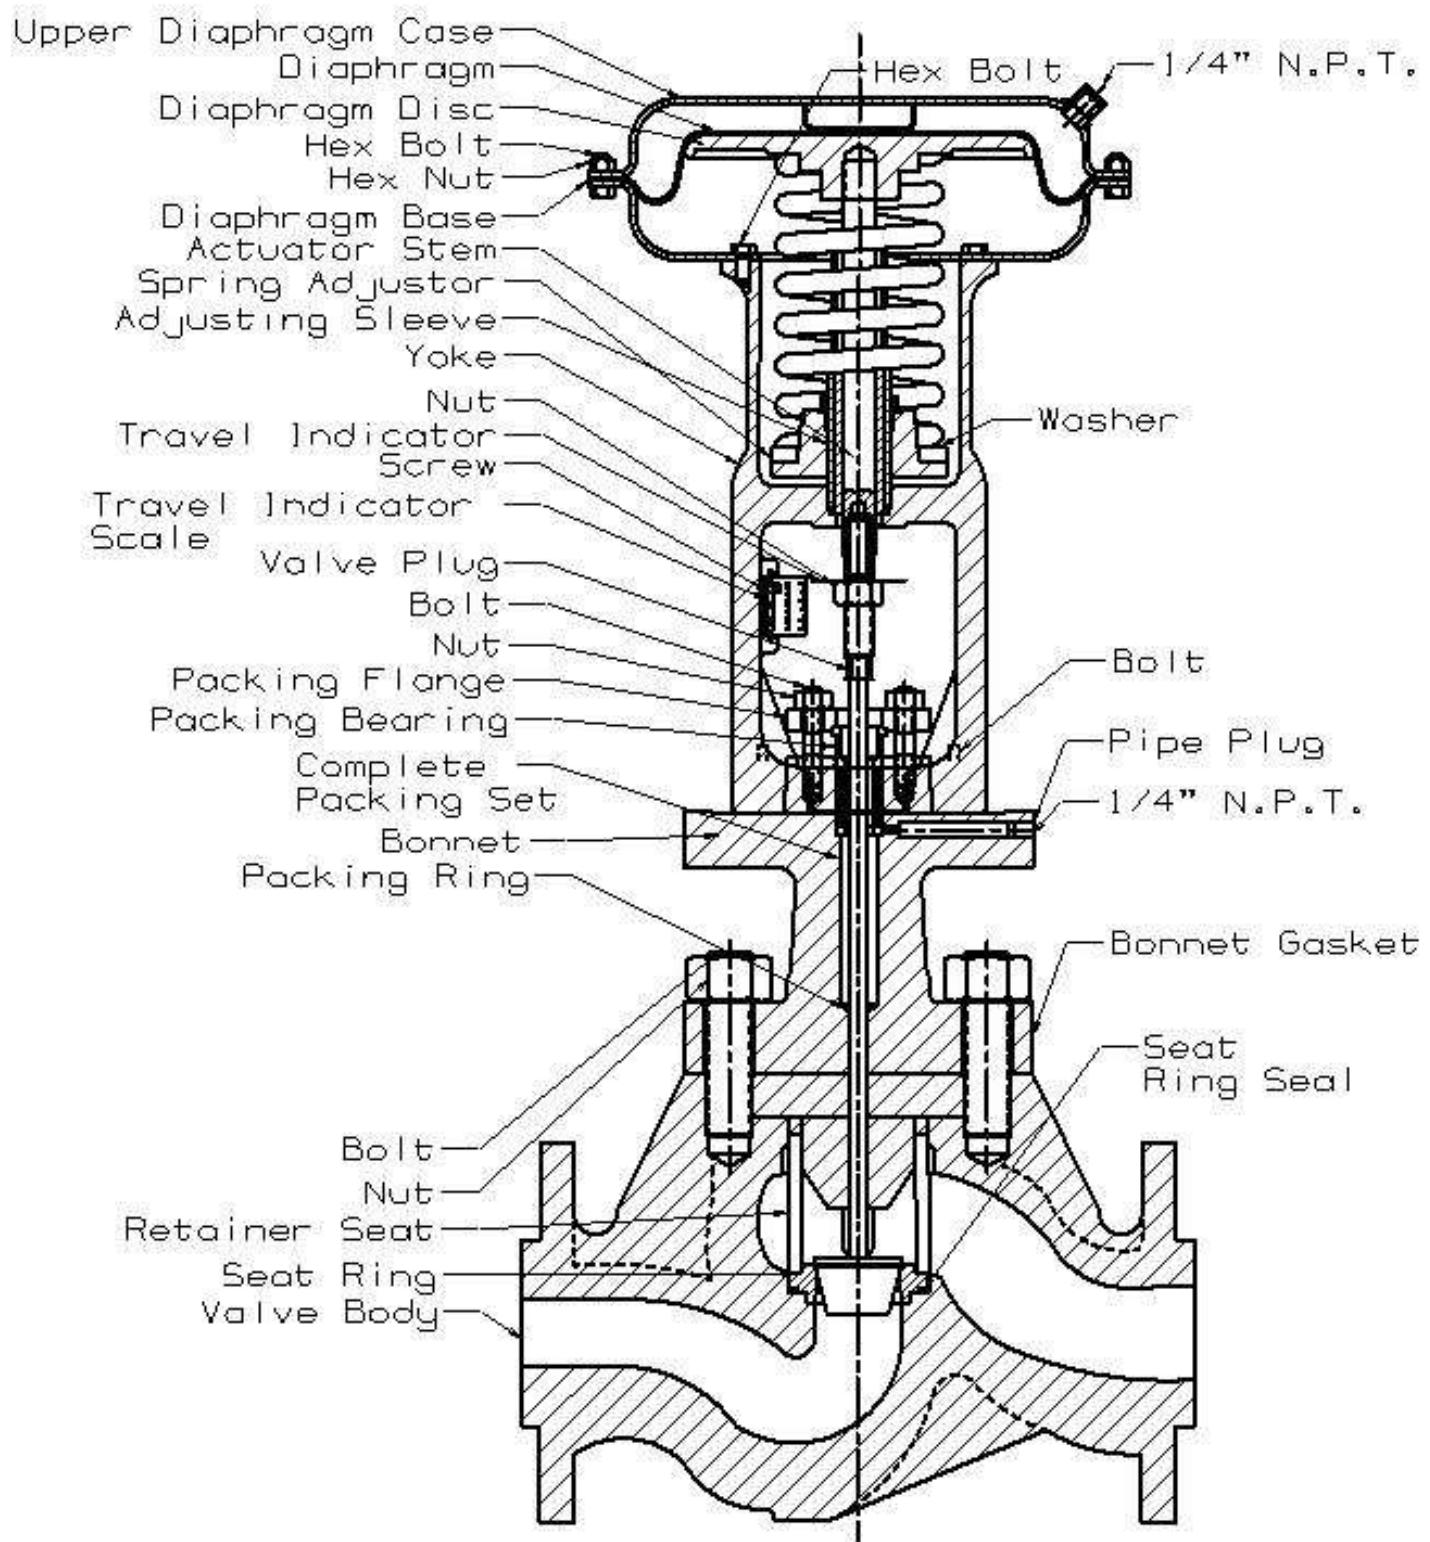
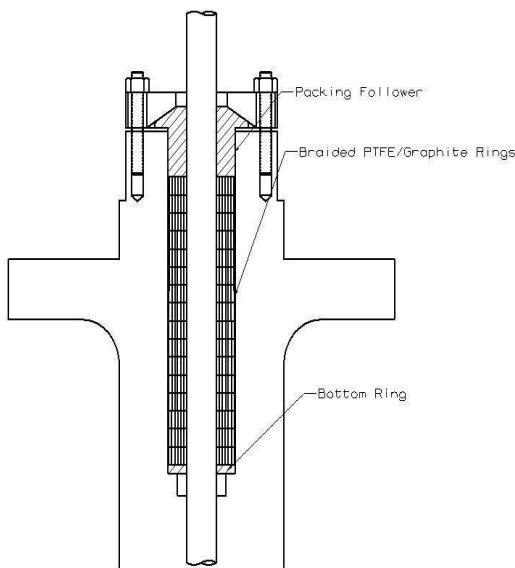

Figure 3 - Typical Valve Cutaway
Figure 4 - Installation Sequence
RENEWING VALVE PLUG STEM PACKING (See Fig. 3, Fig. 4 and 5)
3. Install a new packing set of braided Teflon graphite or Teflon chevron rings as shown on packing installation sketch Fig. 3, 4 or 5. See previous section on renewing valve plug stem packing.
4. The packing bearings have a long wearing life material which under normal usage should not require replacement, however, if damaged or worn the packing bearing (12) and/or the bonnet (6) must be replaced. (Lower bearing in bonnet is not supplied separately.)
5. The gasket (8) and seal (3) should be replaced each time the valve body subassembly is disassembled for cleaning.